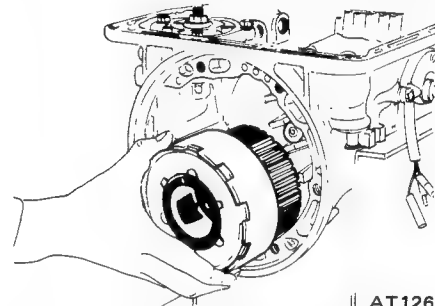

Fig. AT-60 Removing connecting drum
13. Remove connecting drum and inner gear of rear planetary carrier as an assembly. See Figure AT-60.